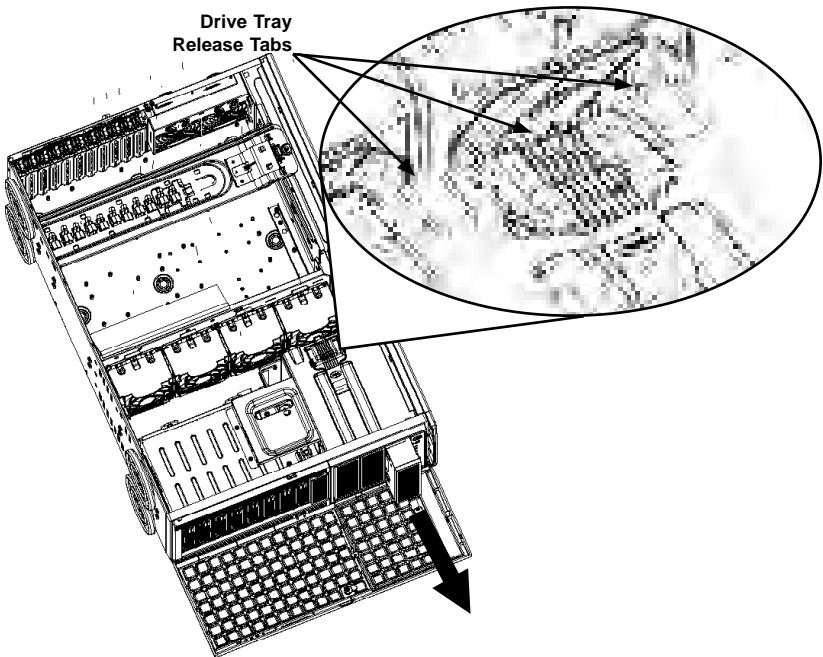

Figure 6-6. Remove Drive Tray
3. Push the drive tray toward the front of the chassis (Figure 6-6).
2. Press the drive tray release tabs (Figure 6-6).